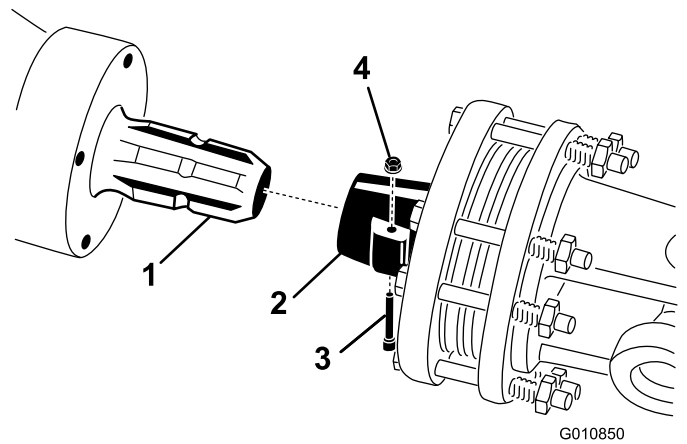

Figure 17
1. Remove the pin and nut from the PTO shaft (Figure 17).
2. Connect the clutch end of the PTO shaft to the aerator gearbox input shaft with pin and nut previously removed (Figure 17). The pin can only be inserted one way.